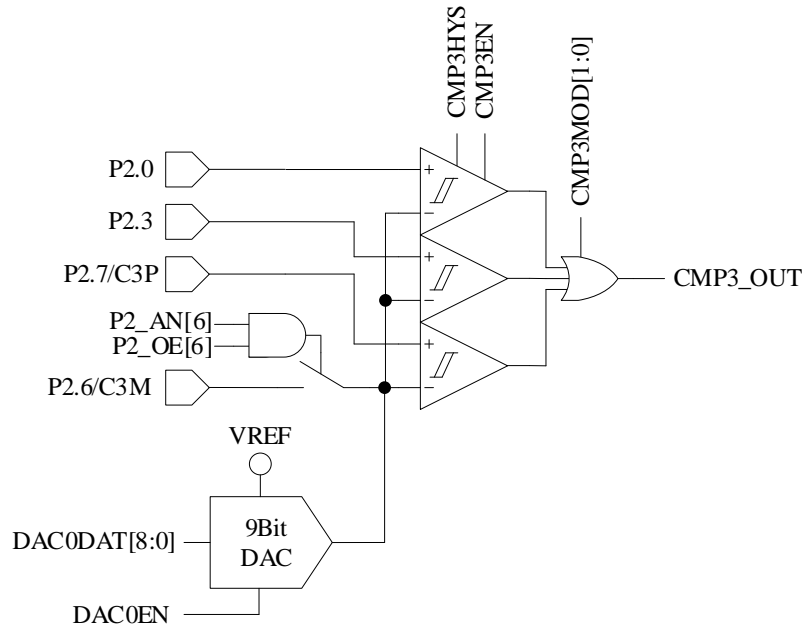

Figure 31-4 Triple-comparator Input Mode
- When CMP\_CR1[CMP3MOD] = 1X, CMP3 works in Three-comparator Input Mode. The connection of input and output pins are as shown in Figure 31-4.